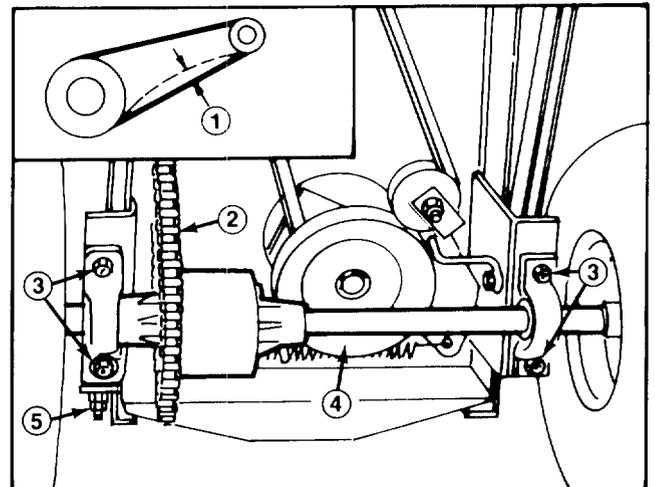

Figure 26
1. Check deflection of drive chain by lifting up on chain with moderate pressure at mid span (Fig. 26). There should be 1/8 of an inch (3 mm) deflection (Fig. 26). If deflection is not as specified, an adjustment is required — steps 2-13.
on top of 2" × 4" blocks (Fig. 26). Wheels must be off the floor so axle can be moved.
6. Loosen four flange nuts securing pillow blocks w/ differential axle to the rider frame (Fig. 26).
7. Loosen rear jamnut on chain tensioner (Fig. 26).
10. Since differential axle must be parallel to rear of chassis, measure distance from center of pillow blocks to rear of chassis (Fig. 26). Difference between the two measurements must not exceed 1/4 inch (6 mm). If difference exceeds 1/4 inch (6 mm), differential axle is not parallel with chassis; therefore left side must be repositioned to attain desired dimension. Tighten locknuts securing left pillow block to rider frame.